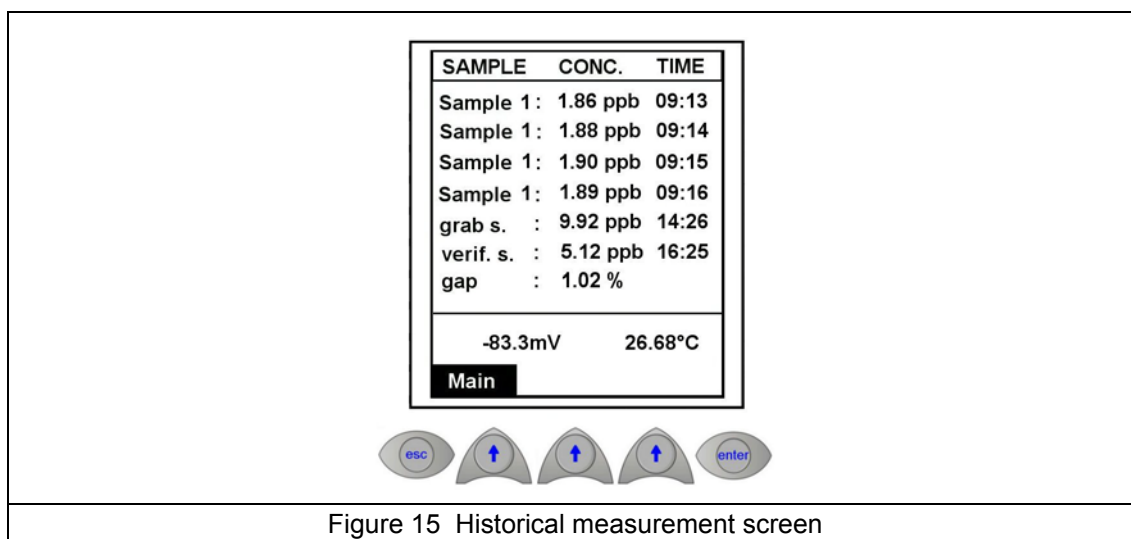

Figure 15 Historical measurement screen
- **Hist** - Selecting this option will show the last four measurements (see Figure 15 on page 58 as an example). The details of the current measurement are also displayed.